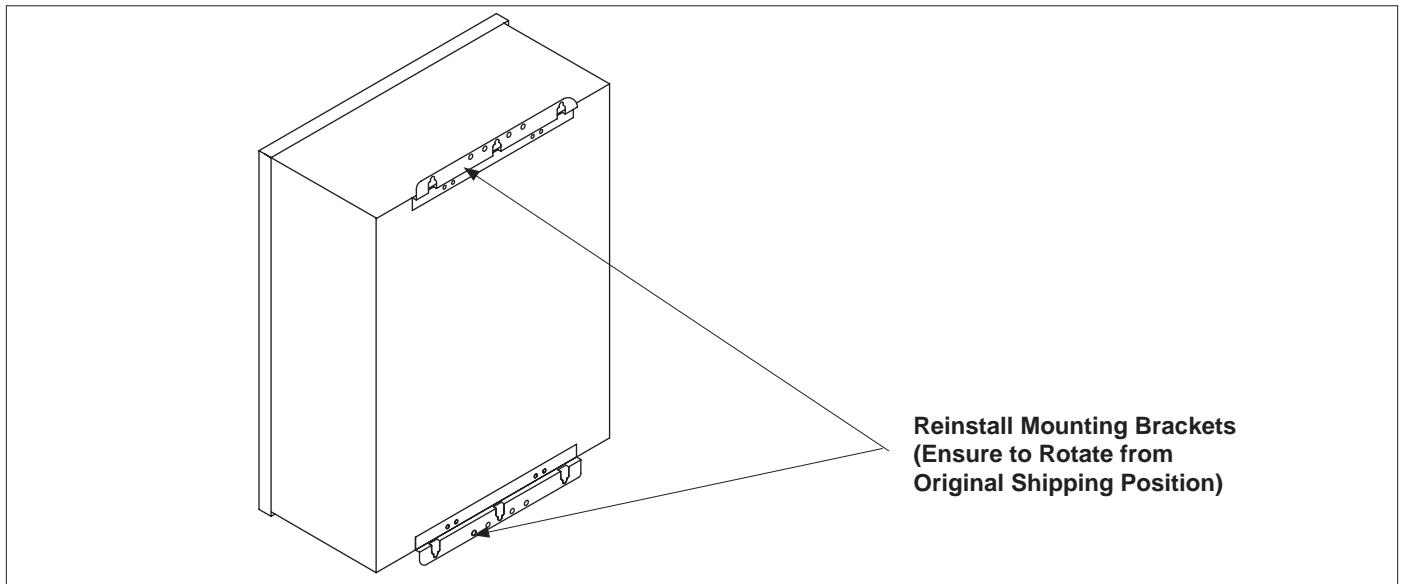

Figure 8. Reinstall Mounting Brackets on Power Center
- Reinstall the mounting brackets to the top and bottom of the back of the Power Center using the four (4) screws that were removed in *Step 2*. Ensure that the brackets are rotated from the original shipping position (see Figure 8).